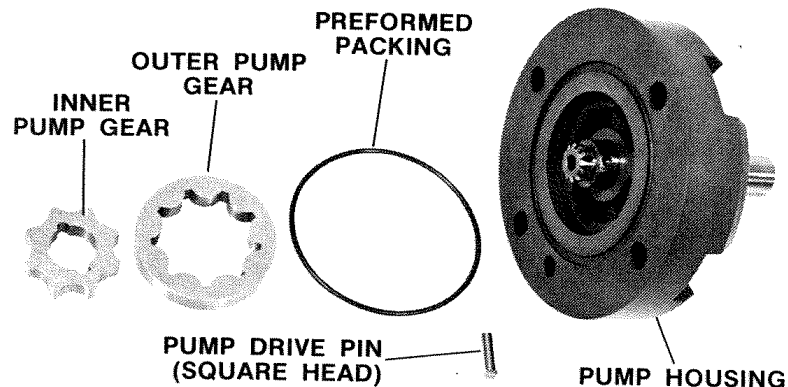

Figure 2-4. Pump-Housing Assembly
1. See Figures 2-4, 2-5, and 2-6.